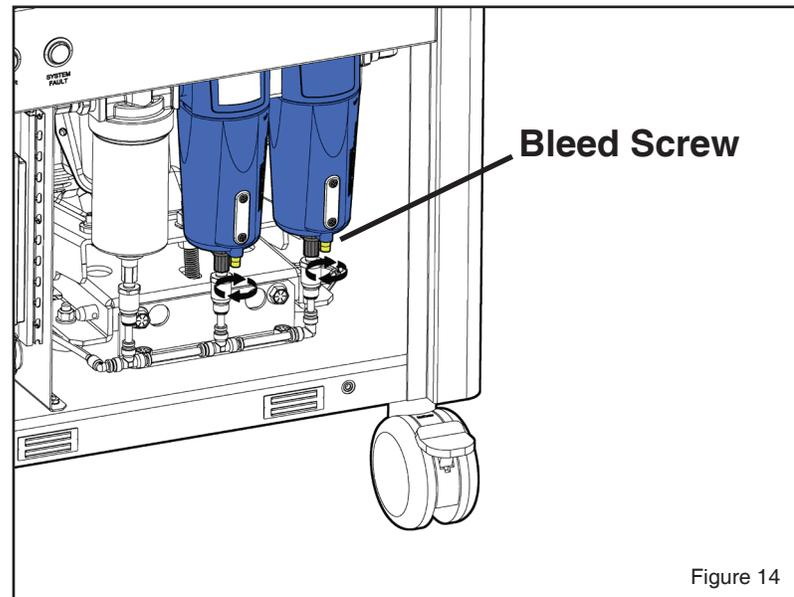

Figure 14
- b. **QUICK METHOD (~2 Min):** Unplug the generator from the wall. Open the front panel by loosening the two retaining screws at the bottom. Next, slightly loosen the two brass bleed screws on the bottom of the two right-most blue filters. **DO NOT FULLY REMOVE THE BRASS BLEED SCREWS.** See Figure 14 below for clarification. When the tank pressure gauge reads zero, tighten the brass bleed screws.